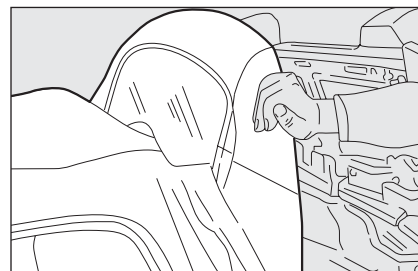

fig. 73
- ❑ lower the top arched frame **fig. 73** and then open the boot;